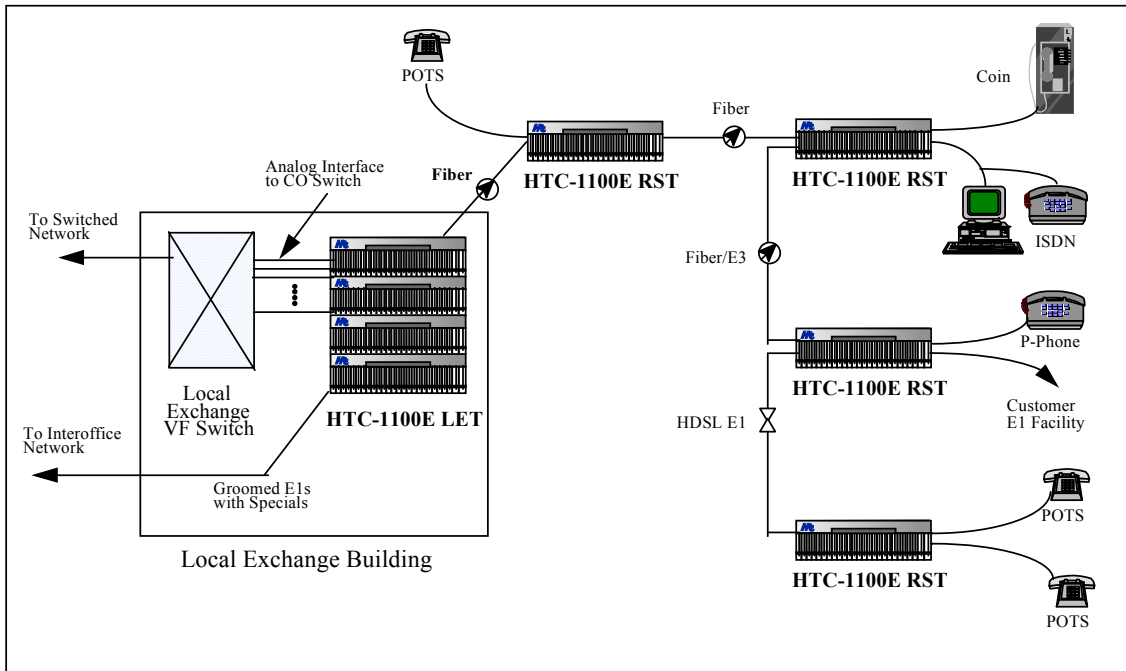

Figure 1-3 Drop & Insert Configuration
Up to five (5) RSTs may be cascaded in a Drop & Insert configuration. Several transport media may be utilized from one terminal to the next in a Drop & Insert configuration. Figure 1-3 shows a sample Drop & Insert configuration.